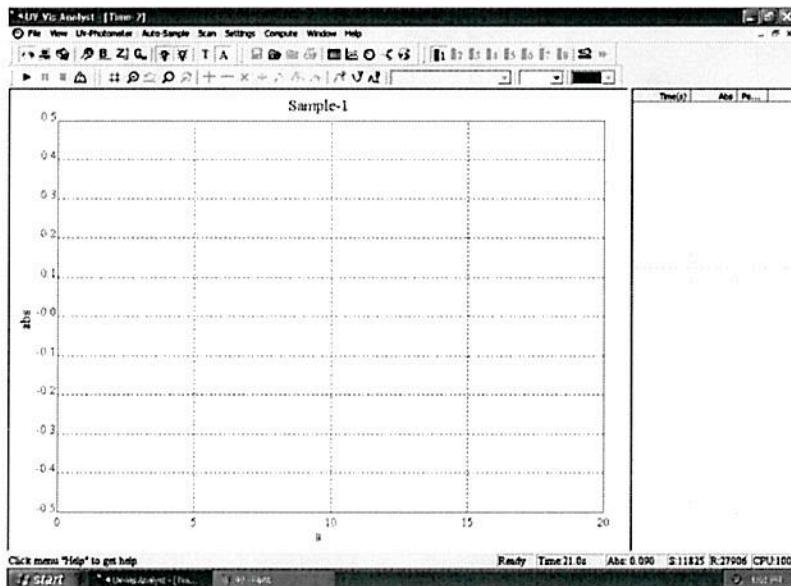

Fig. 4-38
- Click  on the toolbar, the following dialog box will appear (Fig. 4-38).